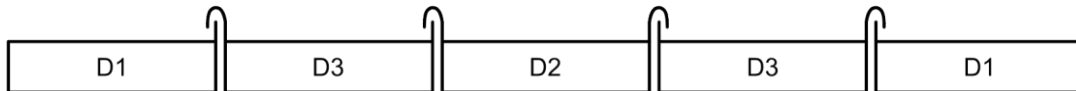

FIG. 3
13. Position the “D2” and “D3” (roof) middle panels (Fig. 3) between the “D1” (roof) end panels and set them in place. Place the “D3” (roof) panels one at a time, and then fit the “D2” (roof) panel into the final position.